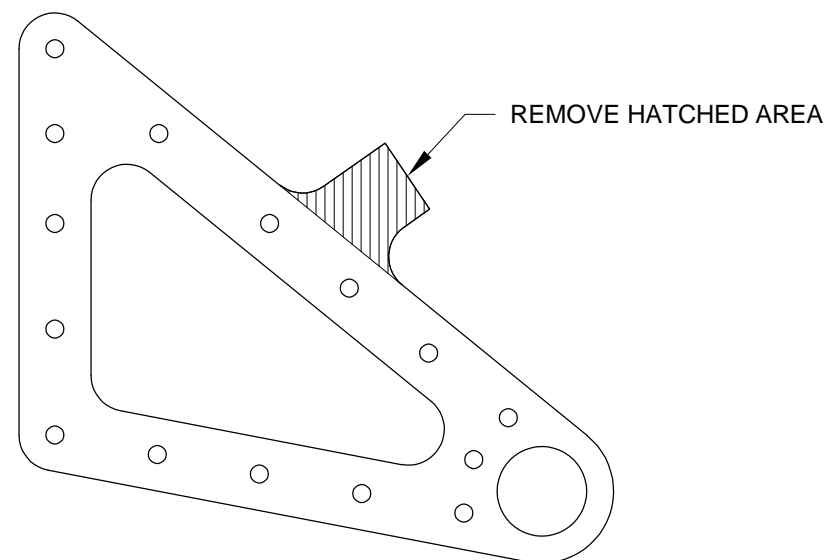

FIGURE 1: HINGE BRACKET SPACER TRIM FOR OUTBOARD AILERON HINGE BRACKET ASSEMBLIES
Step 1: Trim off the tab on both **W-1013A** Aileron Hinge Bracket Spacers as shown in Figure 1.